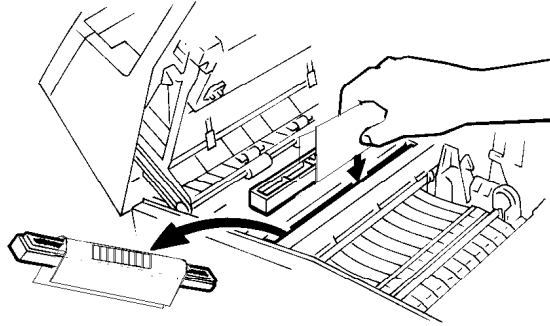

Figure 3. Temperature tape position.
9. Attach temperature tape to a piece of paper, then wrap the paper around the fuser pad with the tape facing down towards the fuser roller (figure 3).